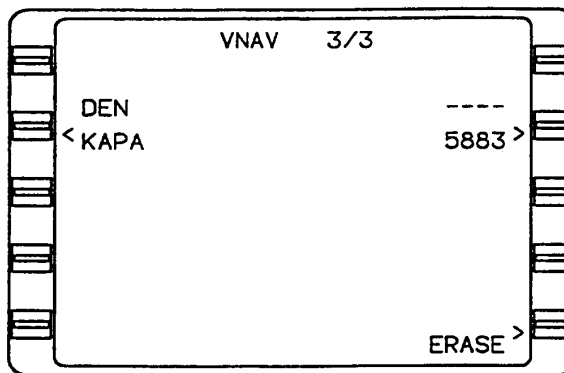

Figure 3A-35. VNAV 3/3 Page
h. *VNAV Data 1/1 Page.* Refer to Figure 3A-36.